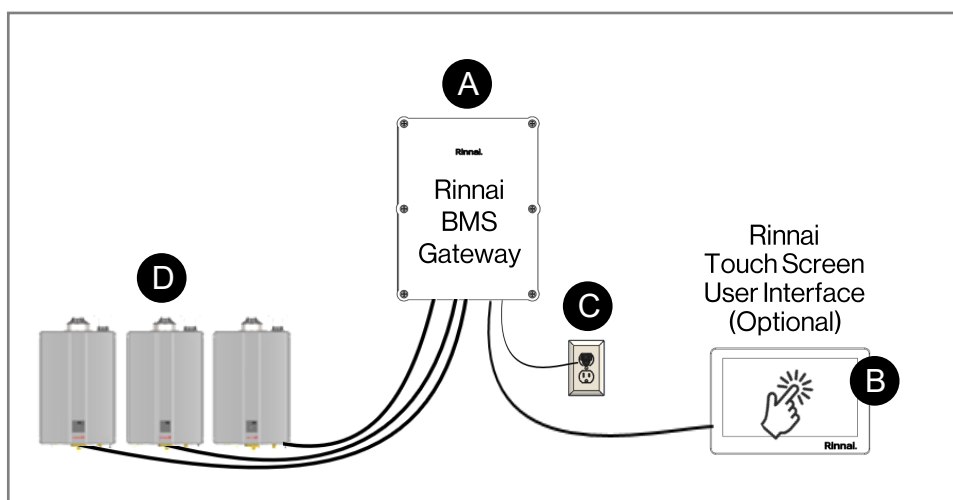

Fig 22. Main Components of BMS Gateway System
- Mount the BMS Gateway to the wall (see “A” in Fig 22).
- Mount the Rinnai Touch Screen User Interface to the wall (If applicable to your configuration) (see “B” in Fig 22).
- Connect power to the BMS Gateway (see “C” in Fig 22).
- Connect the BMS Gateway to the Rinnai Tankless Water Heaters in the system (see “D” in Fig 22).